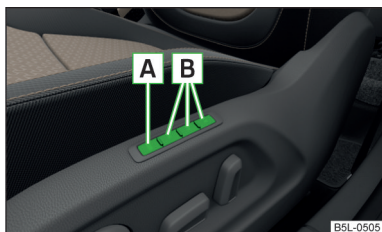

Fig. 42
The memory function for the driver's seat provides the option to store the positions of the driver's seat and the external mirrors. Each of the three memory buttons **B** » Fig. 42 can be assigned a set position.
- Press the button **SET** **A** » Fig. 42.
- Press the required memory button **B** » Fig. 42.
- Press and hold the desired memory button **B** » Fig. 42 for a short while.
- Press and hold any memory button **B** » Fig. 42 on page 63. After the seat has assumed the position stored under this button, at the same time press the button **A** on the remote control key within 10 seconds.
- Press and hold the **SET** button **A** » Fig. 42 on page 63. At the same time, press the button **A** on the remote control key within 10 seconds.